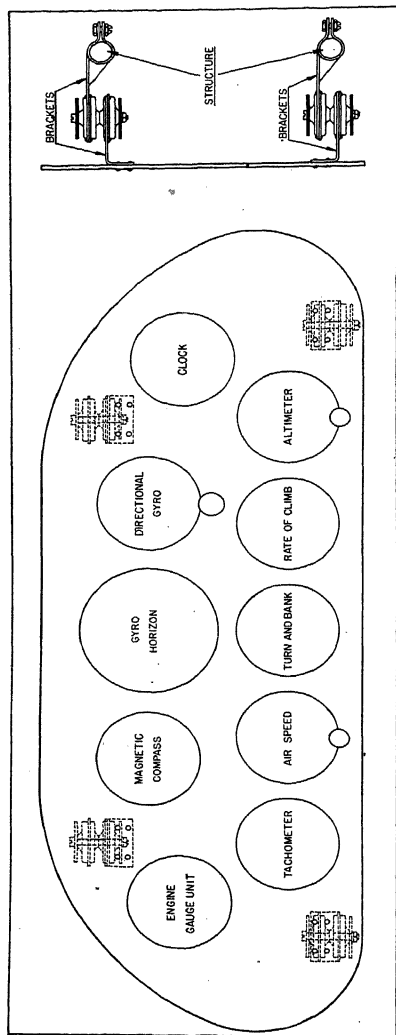

Fig. 73.—Shock-absorbing mounting of a complete instrument board.
5. Shock absorbers should be mounted in a plane passing through the center of gravity of the panel. A very effective method of shock-absorbing a complete instrument board is seen in Fig. 73. Where the panel is large, it may be best to mount flight instruments on a separate, shock-absorbed panel, as in Fig. 74.